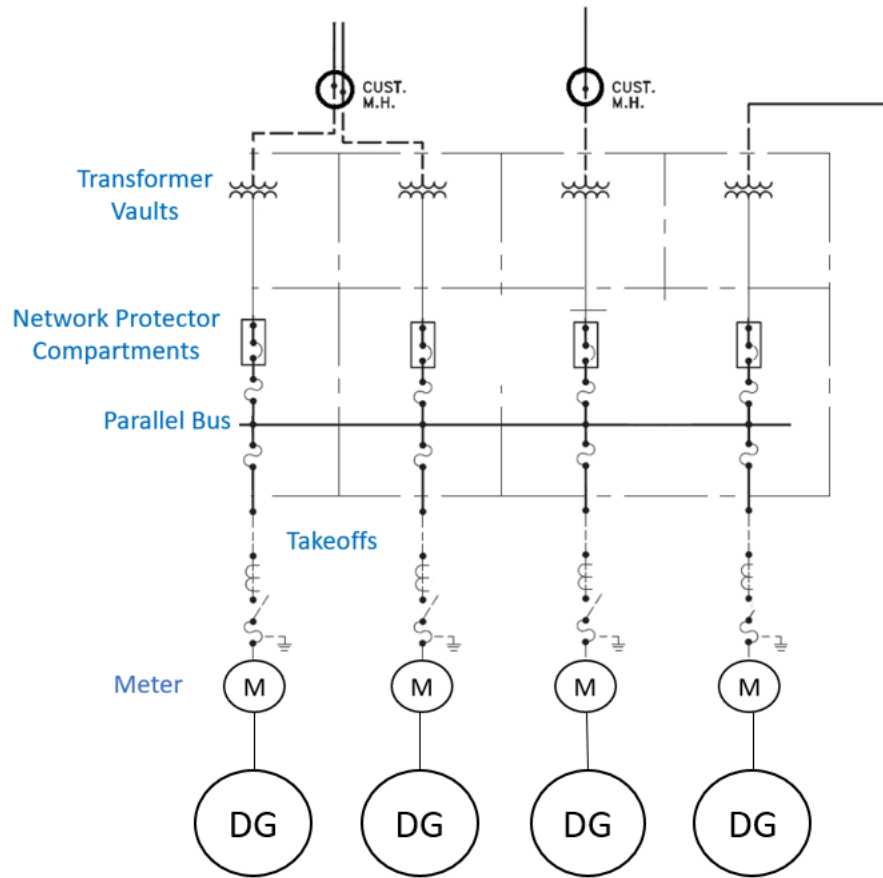

Figure 1 – Example of a 460V Installation
- **Figure 1** illustrates a 460V installation.